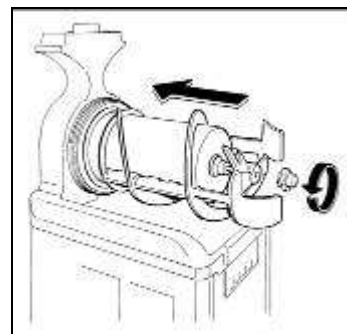

Fig. 14
- Block all these components into place by turning the knob in counter clockwise direction (fig.14).